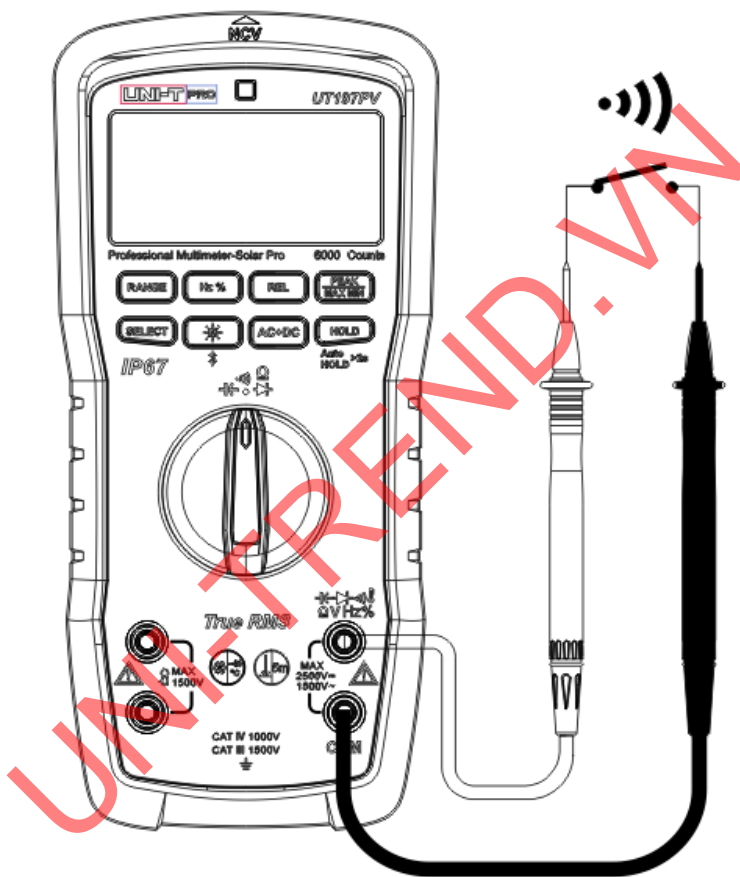

Figure 9
6. Continuity measurement (Figure 9)